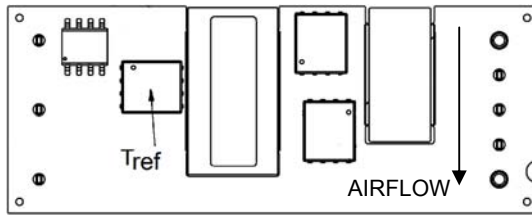

Figure 13. T_{ref} Temperature Measurement Location for Open Frame Module.
To provide protection under certain fault conditions, the unit is equipped with a thermal shutdown circuit. The unit will shutdown if the thermal reference point T_{ref} (Figure 13), exceeds 130°C (typical), but the thermal shutdown is not intended as a guarantee that the unit will survive temperatures beyond its rating. The module can be restarted by cycling the dc input power for at least one second or by toggling the remote on/off signal for at least one second. If the auto-restart option (4) is ordered, the module will automatically restart upon cool-down to a safe temperature.
The thermal reference point, T_{ref} used in the specifications for open frame modules is shown in Figure 13. For reliable operation this temperature should not exceed 117°C.